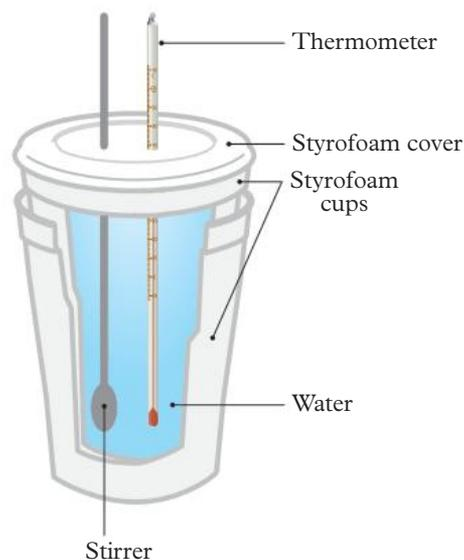

FIGURE 1 An alternative to a calorimeter
- Calorimeter (or alternative shown in Figure 1)